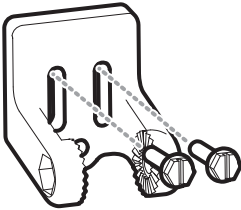

Figure 20
- Align the mounting bracket transducer assembly with the drilled holes in the transom. With a 5/16" (8 mm) socket driver, mount the assembly to the transom using the two #10 - 1" (25.4 mm) long screws provided (Figure 20). **Hand tighten only!**